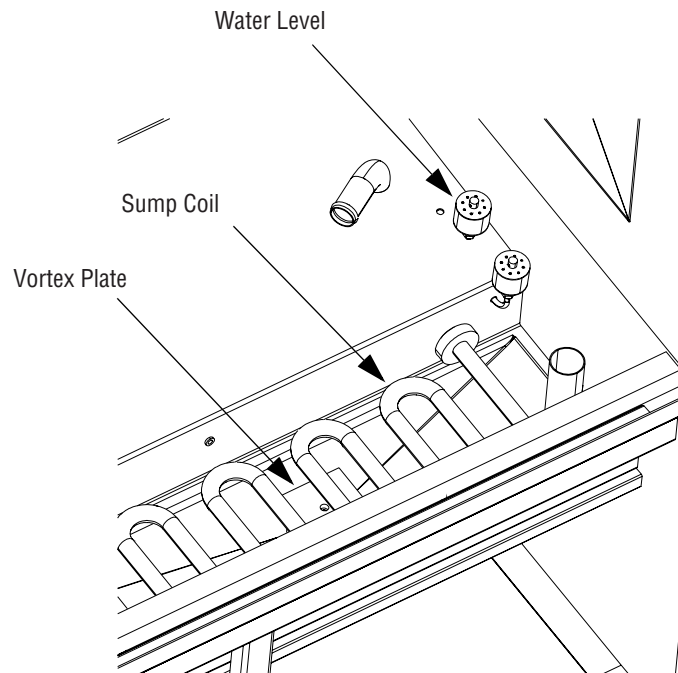

Figure 4-1. Vortex Plate
3. Verify vortex plate, located under load grating, is free of debris (see Figure 4-1).